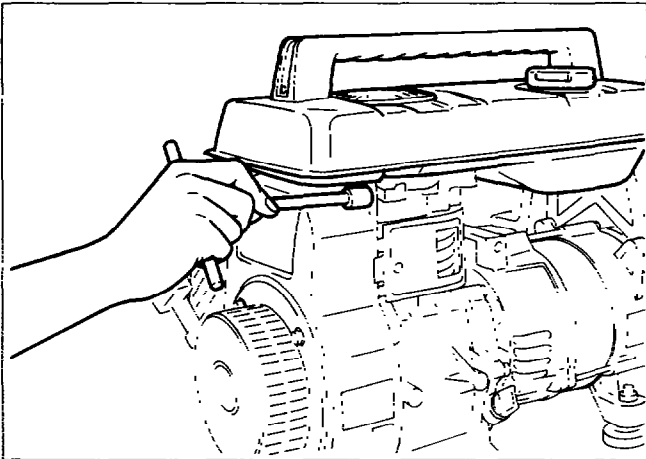
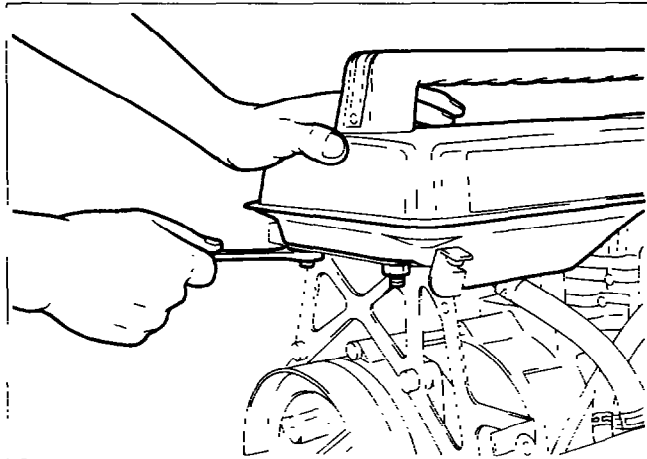

Fig. 10-12
Fig. 10-13
| 8. | Fuel tank | (1) Remove the two M6×12 flange bolts from the blower housing. (See Fig. 10-12.) (2) Remove the fuel tank by taking off the two M8 nuts from the bottom of the tank. (See Fig. 10-13.) | | 10mm box wrench 13mm box wrench |